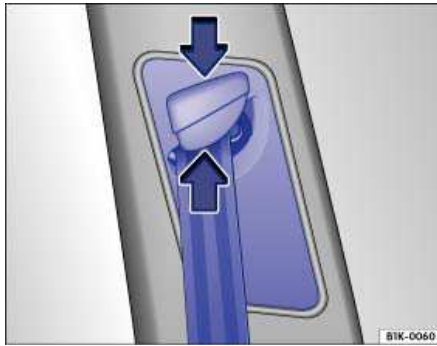

Fig. 64 Next to the front seats: Safety belt height adjuster.
- Pinch the safety belt attachment together as indicated by the arrows and hold ⇒ fig. 64.